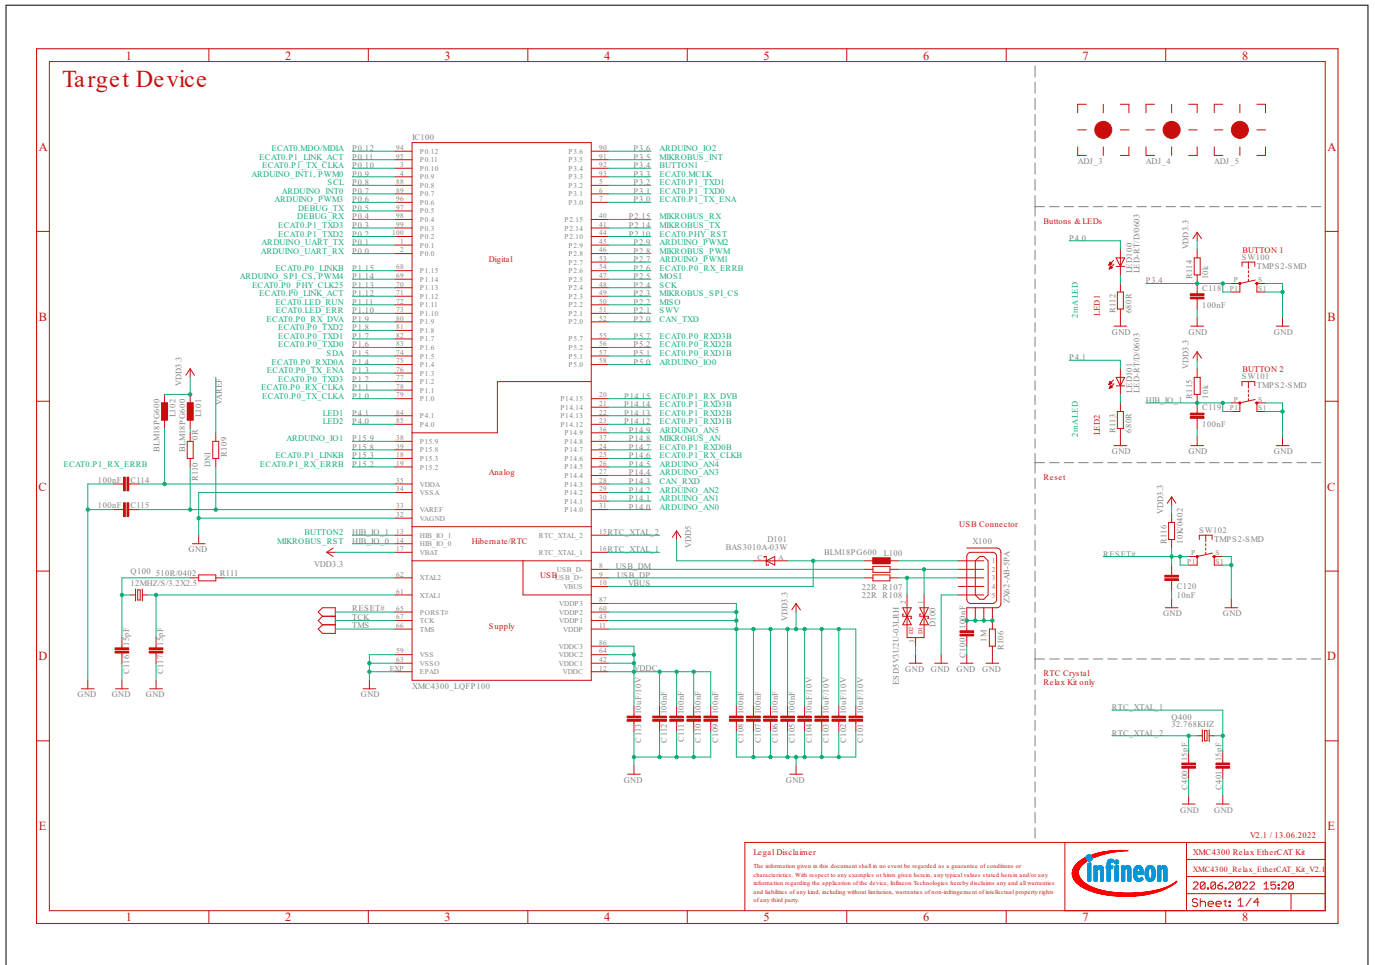

Figure 15 MCU, Push Buttons, LEDs, Reset Button, Crystals, USB (See Revision 1.2)
- Figure 15 (See Revision 1.2)